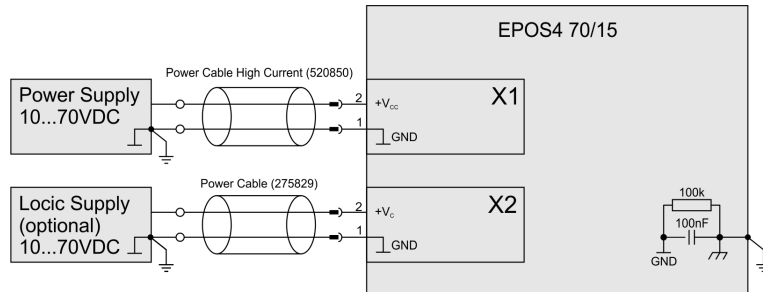

Figure 4-49 Power & logic supply
**Power supply & optional logic supply** . . . . . Figure 4-49
**Power supply & optional logic supply** ..... Figure 4-49